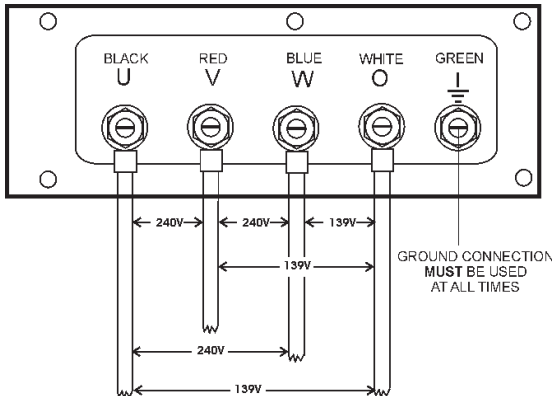

Figure 23. Output Terminal Lugs 3Ø 240/139V Connections
2. Connect the load wires to the **Output Terminal Lugs** as shown in (Figure 23).